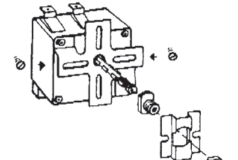

Figure 4
4. Determine the appropriate mounting method and install the new HARPCO 6700 series control (as indicated in 4a or 4b following). The new control may be installed in any position (3, 6, 9 or 12 o'clock) that will provide the required shaft alignment for the knob OFF position. (See Figure 4)